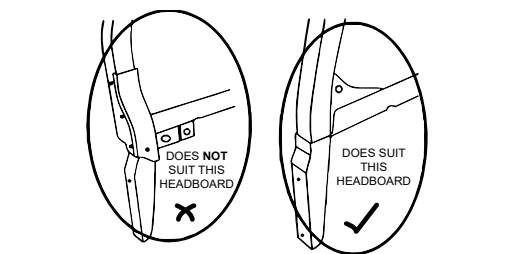

Figure F1
• Measure and drill remaining 5 holes at 262 mm centers and 9mm up from the bottom edge of the rope track as shown in **Figure F1**.